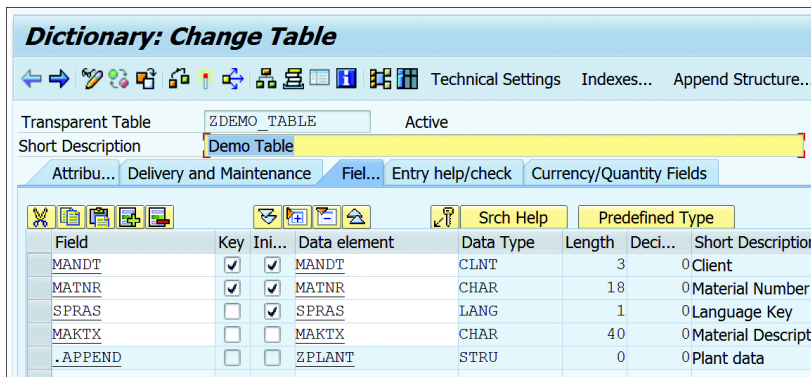

Figure 10.34 Append Structure in Table
5. Activate the append structure and click BACK to return to the table. The append structure will be shown at the end of the fields, as in Figure 10.34. You can click the EXPAND and COLLAPSE buttons in the toolbar to show the append structure fields or hide them from view.